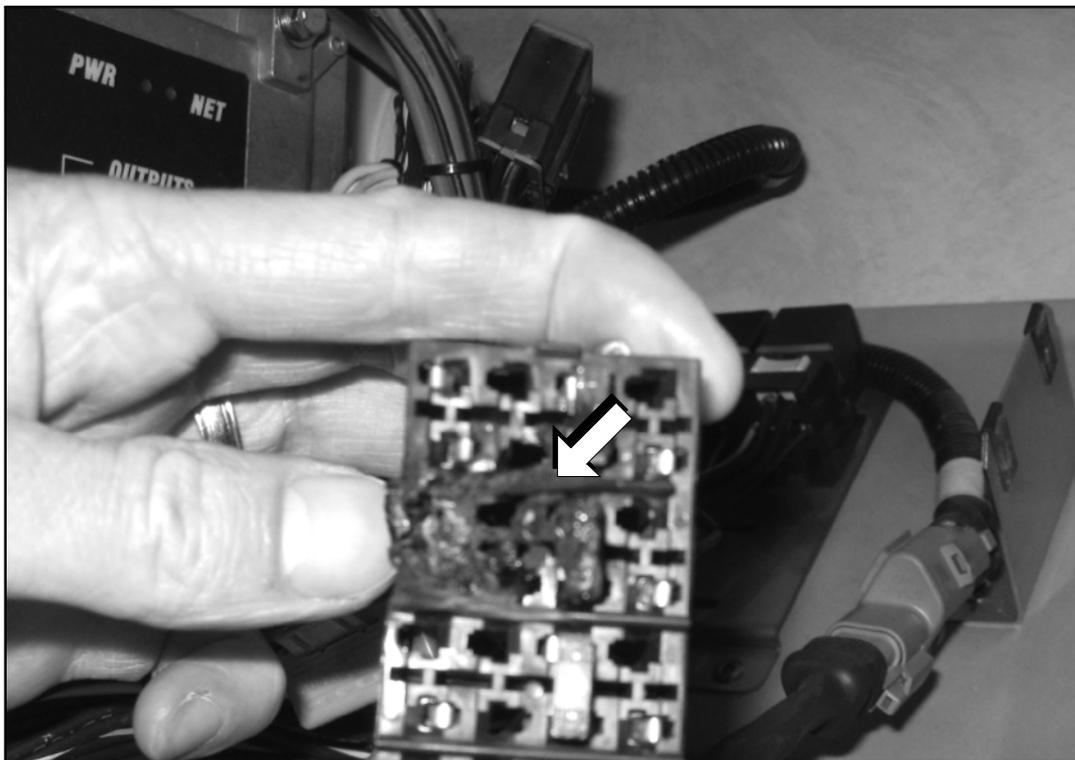

Figure 10. Fuse block in curbside, parcel rack compartment #1.
23. Visually inspect the fuse block for heat damage or melting at locations A1 and A2 (refer to Figure 10).